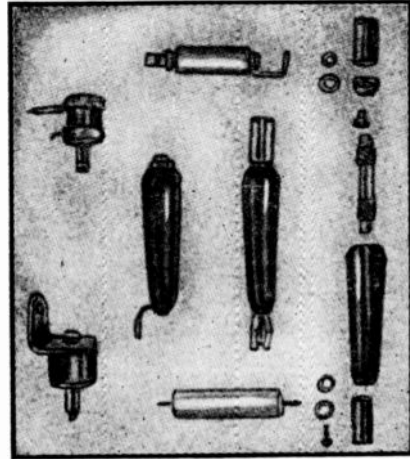

Fig. 39.—Illustrating some of the commonly used types of suppressor resistors.
The most effective means of reducing these radiations is to insert series resistances or better still the wire wound or inductive type suppressors in the leads leading to the sparking electrodes. A single suppressor, close to the rotor in the distributor, connected in series with the ignition-coil lead that terminates at the rotor arm is usually effective but if not additional suppressors in the leads at each of the spark plugs are quite effective. Fig. 39 shows several types of commercial resistors, called suppressors, which are all of carbon mixtures. The long unit showing the two types of terminals, and whose component parts are shown immediately to the right, has a bakelite case to prevent it from grounding. The porcelain covered units shown at the top and bottom are sealed and may not be disassembled. The two units of larger diameter, shown to the left, were of earlier manufacture and are discussed below. Two qualifications that suppressor resistors should have are (1) the ability to carry high instantaneous currents without deteriorating and (2) must have a low terminal capacity to prevent coupling around them.
The first commercial resistors used as suppressors were of short length, of comparatively large cross-section, and had large terminals as shown to the left of Fig. 39. The resistance material used was carbon, and had intense voltage drops between particles, resulting in luminous destructive discharges from particle to particle through the binder. The large terminals added self capacity to the suppressor and also to ground from the spark plug terminal, and were rather ineffective. In some cases, flash-over actually occurred between the terminals. A better suppres-